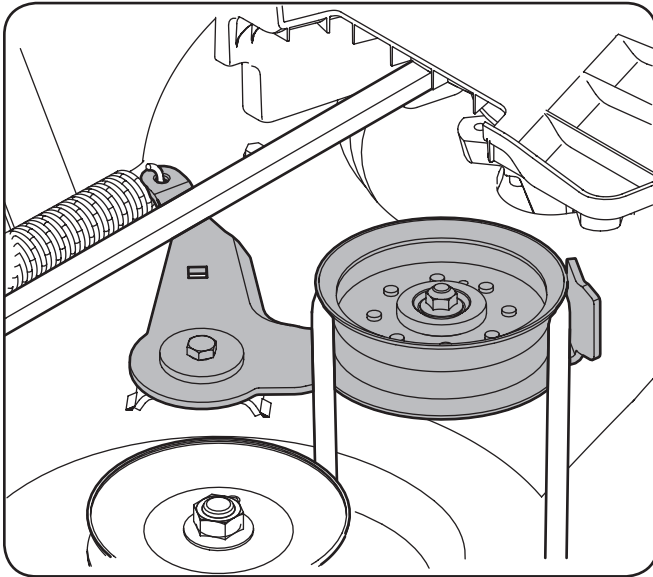

Figure 7-2
- Working on the right side of the tractor, insert a 1/2-inch drive ratchet wrench, set to *tighten*, into square hole found on the idler bracket. See Figure 7-2.
- Pivot the wrench forward to move the deck drive pulley forward. See Figure 7-2.